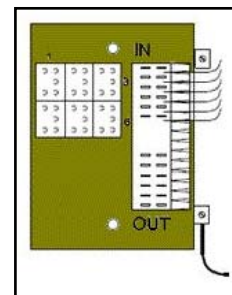

Fig. 11
2.1.1 Punch outgoing copper pairs onto the “Out” side of the available pins of the 6-pair solid state protector block. See Figure 11. The “Out” side of the protector block always “points” to the world outside of the HVI, be it in the substation (Control House) or in the network (PSTN). The pre-installed protector block is pre-connected to ground bar installed on the backboard. Refer to Section 1.2 for notes on grounding.